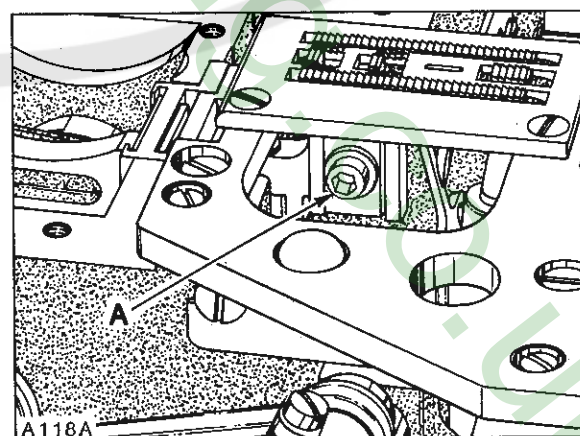

Fig. 17
With feed travel set to desired stitch length, set feed dog height as specified by loosening mounting screw (A, Fig. 17) to position as required. Feed dog supporting screw is located in the feed dog holder, adjust as required to support feed dog before tightening screw (A).